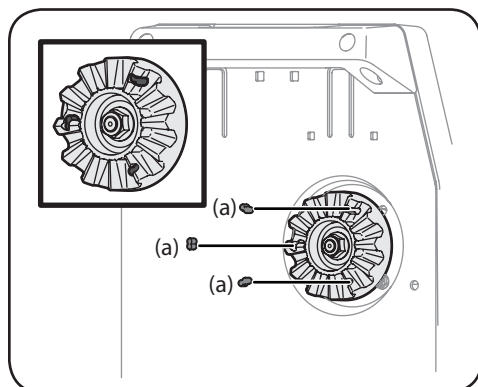

Figure 5-1
1. Gently pry each clutch bumper (a) out of the dog clutch using a flathead screw driver. See Figure 5-1.